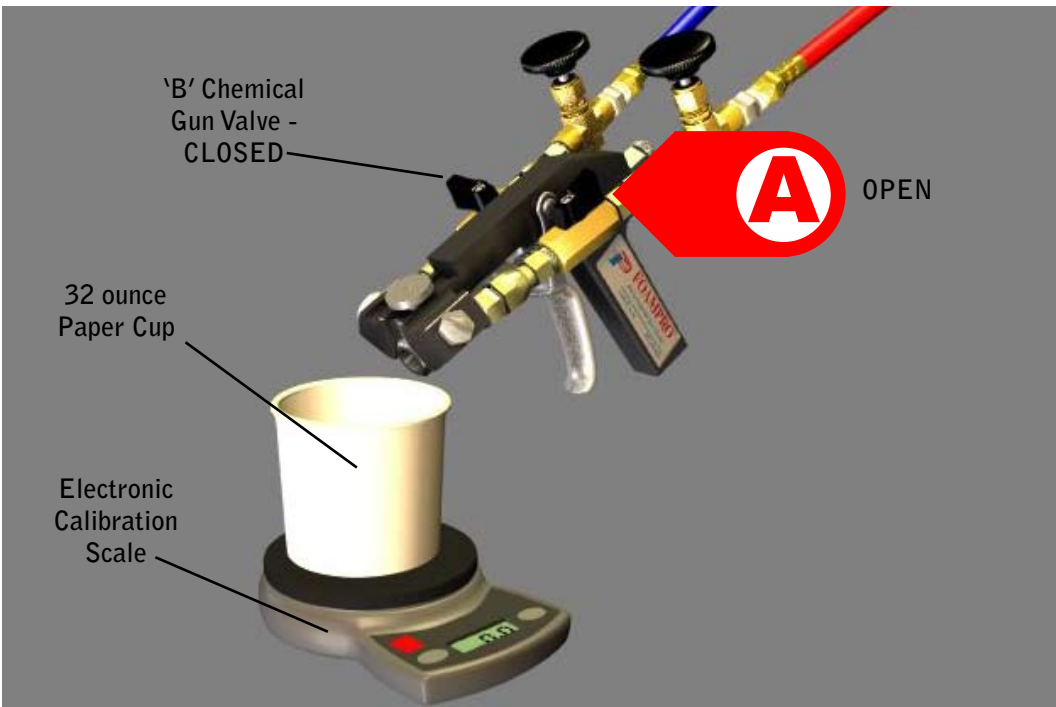

Figure 9
- 3 | Open the “A” chemical valve and close the “B” chemical valve on the RTF1000EZ dispenser. (See Figure 9)